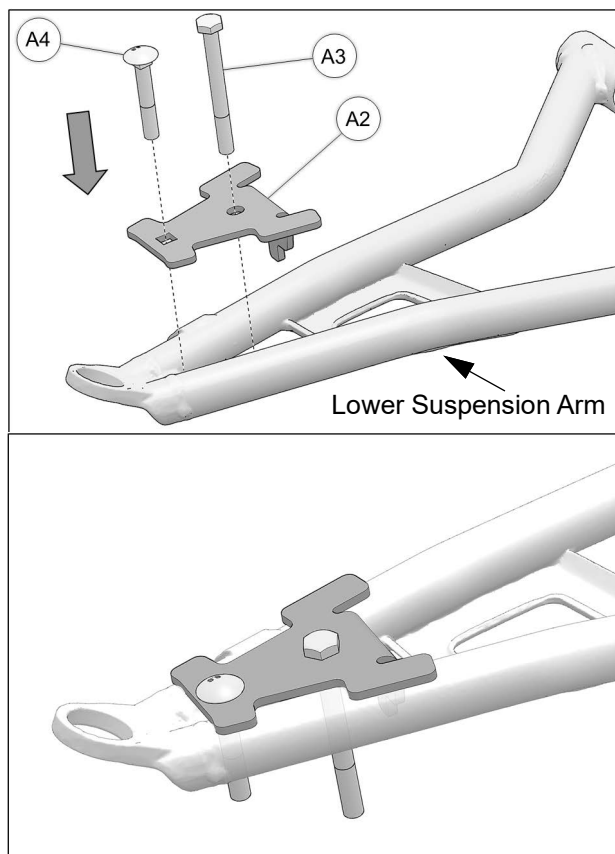

Fig. 14
5. Insert M10x100mm bolt (A3) & M10x65mm carriage bolt (A4) in bracket cover (A2), and position these parts over lower front suspension arm as shown in Fig. 14